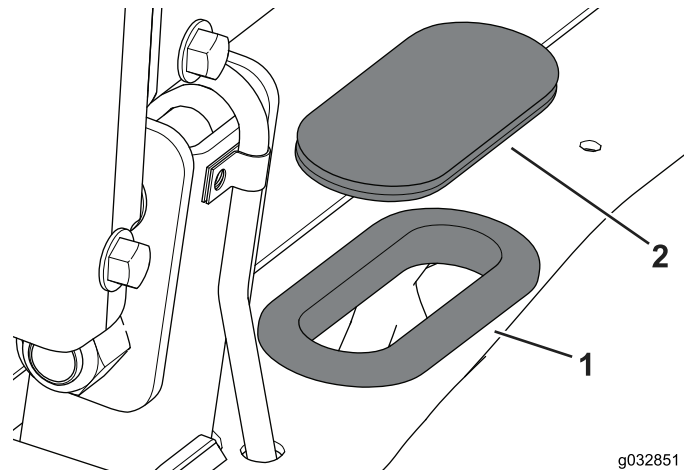

Figure 110
5. Replace the winter grommet with the summer grommet (Figure 110).